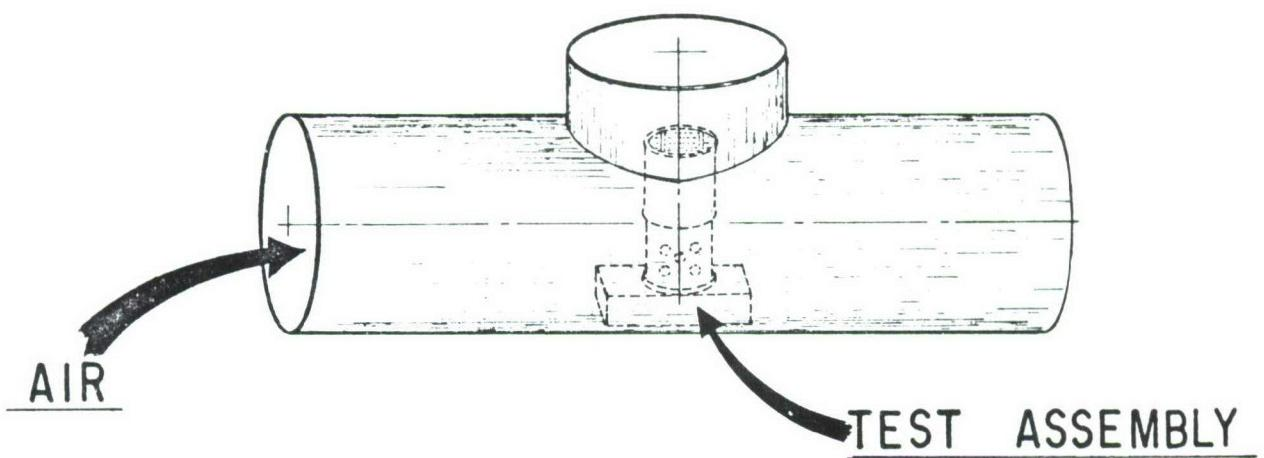

FIG 4
D. Wind - Assembly ET-3 was placed in a tube with a chimney for hot gases (see Fig. 4). Air was forced through the tube by means of a variable speed fan. Velocity was measured with a flowmeter. Three cycles were completed. The first was underheated but the second and third were satisfactory. It was then noted that the chimney was providing favorable air current for the assembly. The fourth cycle was tested on the bench with air blowing directly on the assembly. Almost no operational life was achieved. The flame came out the vent holes in the burner can. The assembly was shielded from the air flow and a fifth cycle completed successfully.